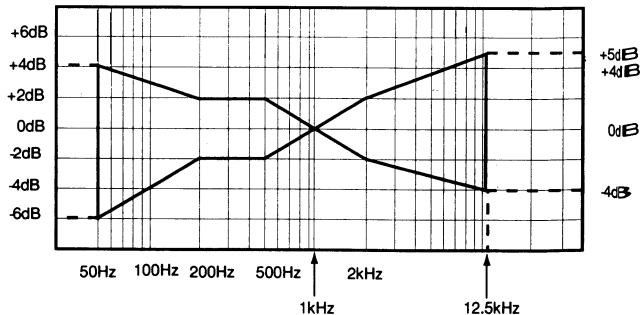

Fig. 11
6. Repeat steps 3 to 5 for each tape and confirm that the output for each is within the range of the overall frequency response shown in Fig. 11.